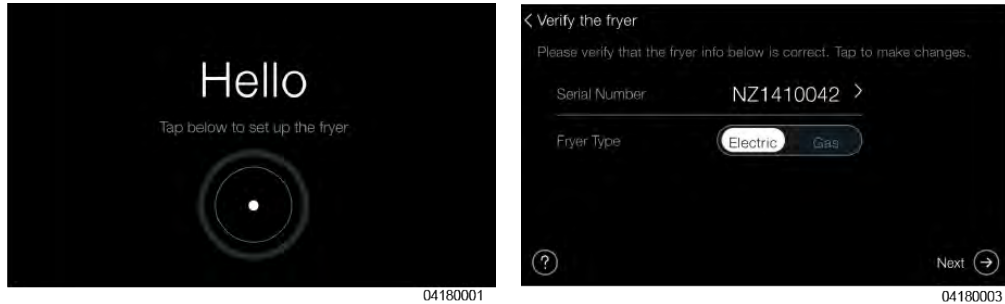

Figure 3-1
- 2) Tap the circle to get started, see Figure 3-1, page 12.